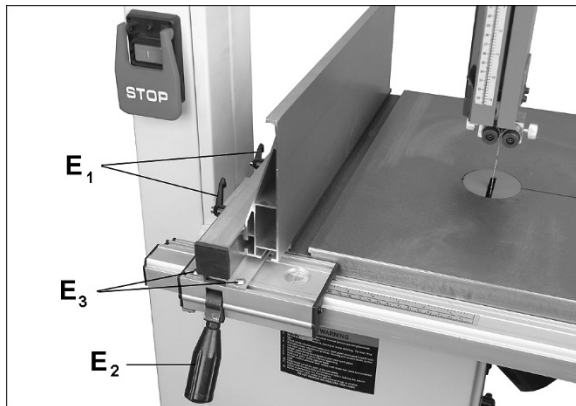

Figure 5-19
3. If adjustment is needed, use the set screws which are located next to the fence body screws (E₃, Figure 5-19). Loosen the four screws (E₃) and turn any of the four adjoining set screws in or out as needed, until fence is flat against table.
5. Loosen handles (E1, Figure 5-19) and slide fence onto bar. Tighten handles (E1).
1. Slide fence against edge of miter slot (Figure 5-19) and push down handle (E2) to lock position. The fence should align parallel to miter slot along entire length of fence.
2. If adjustment is needed, loosen four screws (E3, Figure 5-19) and shift fence body as needed to align fence with miter slot.
3. Verify that fence, top-to-bottom, lies flat against side of blade. If it does not, use the set screws which are located next to the fence body screws (E3, Figure 5-19). Loosen the four screws (E3) and turn any of the four adjoining set screws in or out as needed, until fence is flat against blade.
2. If adjustment is needed, loosen the four screws (E3, Figure 5-19) on the fence body and nudge fence body left or right along the tracks in the fence guide, until cursor aligns with zero when fence is against blade.